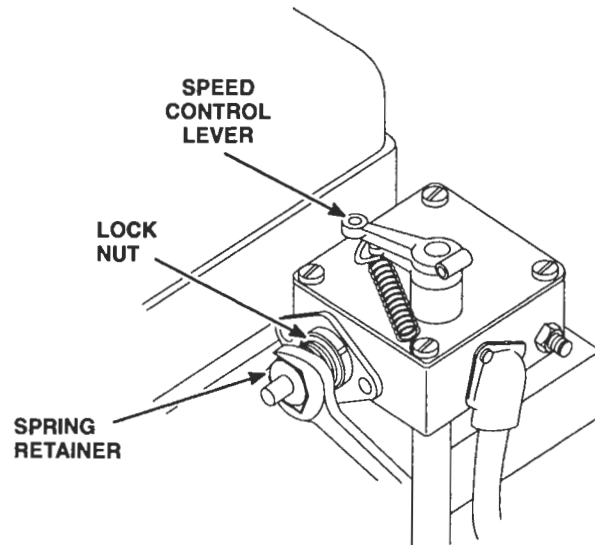

Figure 8. Adjusting Maximum No-Load Speed
1. Loosen the spring retainer locknut (Figure 8.) and back off the high-speed spring retainer approximately five turns.